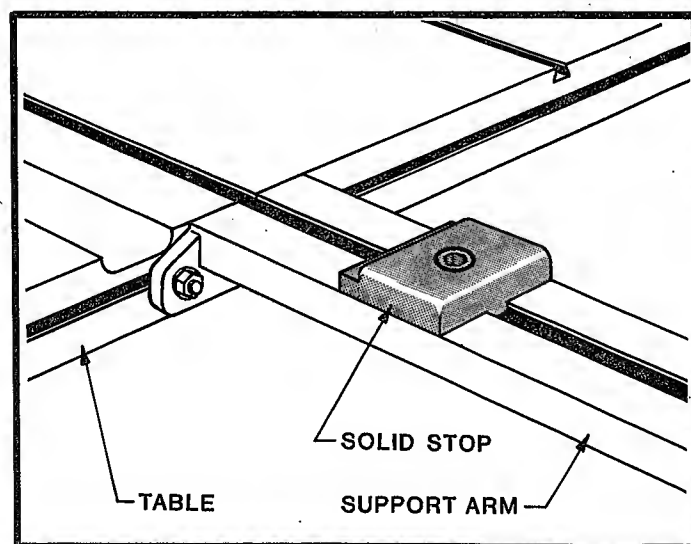

FIGURE 31
1. Solid front gage stops (Figure 31) are used in the dovetail slots of the table and front support arms.